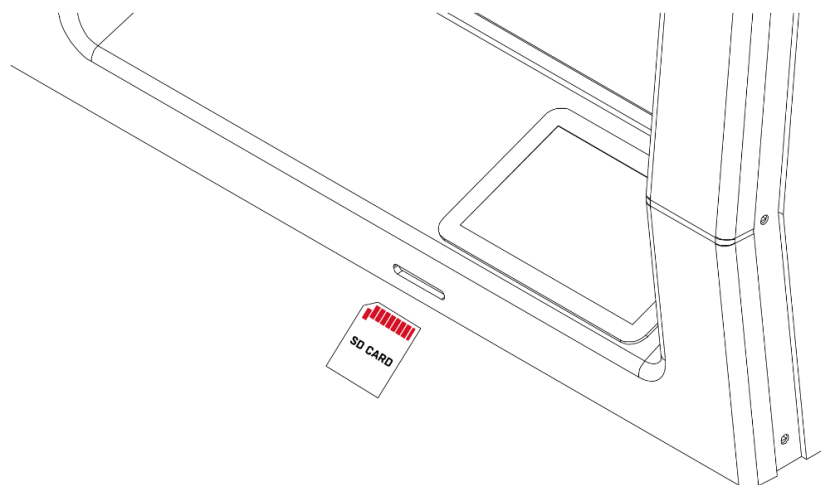

Fig. 41 Proper position of SD card in SD card slot
2. Insert the SD card into the SD card slot (fig. 41).